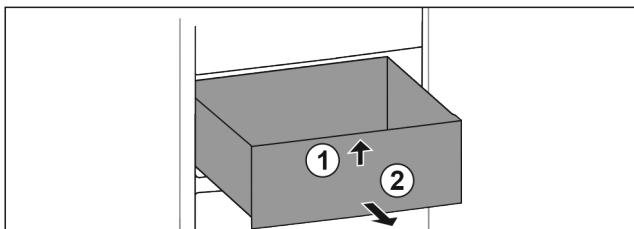

Fig. 71
- Lift up drawer at the front. Fig. 71 (1)
- Remove drawer to the front. Fig. 71 (2)